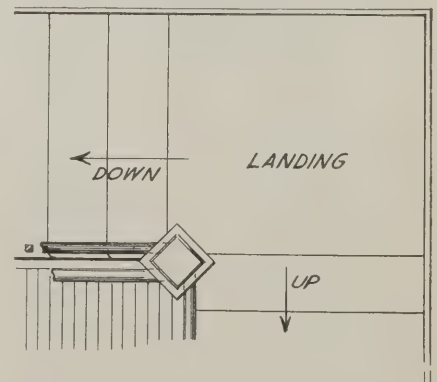

Fig. 2—Newel post set diagonally
A. P. S., Tryon, Neb., presents a method for placing the newel post, Fig. 2, which he says he has used with success for several years. He writes that "the advantage of setting the angle newel post diagonally is that it does away with one post, and gives plenty of room to fasten the rails both land-